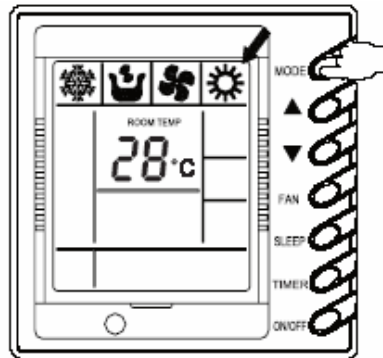

Fig. 22
1.6 Operating mode adjustments (Fig.22)